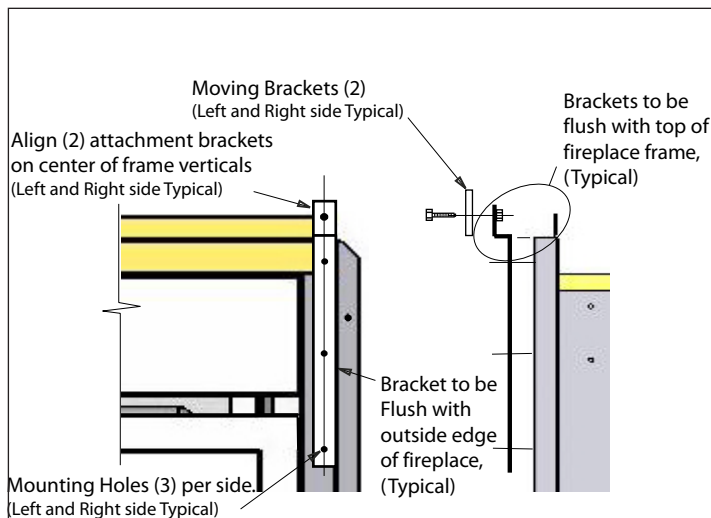

Figure 2. Bracket Alignment
From the package of hardware locate one of the Attachment Brackets. Hold this part in place as shown in Figure 2. With a pencil or pen mark the (6) six holes on the face of the fireplace frame, (see Figure 2.) Note: Ensure the brackets align with Figure 2. Below.
Before you go any farther now is the time to double check the location of the holes, do they agree with Figure 2. If you are satisfied with the location of the holes, use a punch to mark the holes, then using a 1/8" drill, drill out the six holes.
Step 3. Install the (2) two Attachment Brackets. (See Figure 2)